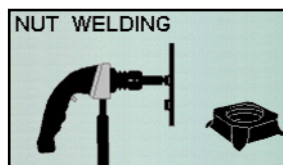

Figure 6.13
2. Select Nut Welding Program by pressing the Left or Right Navigation Buttons (fig. 4.9). Make sure that Nut Welding graphic appears on the screen (fig. 6.13)